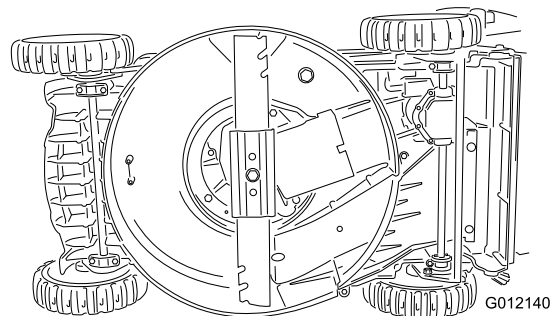

Figure 25
2. Tip the machine onto its side (Figure 25), with the dipstick down.